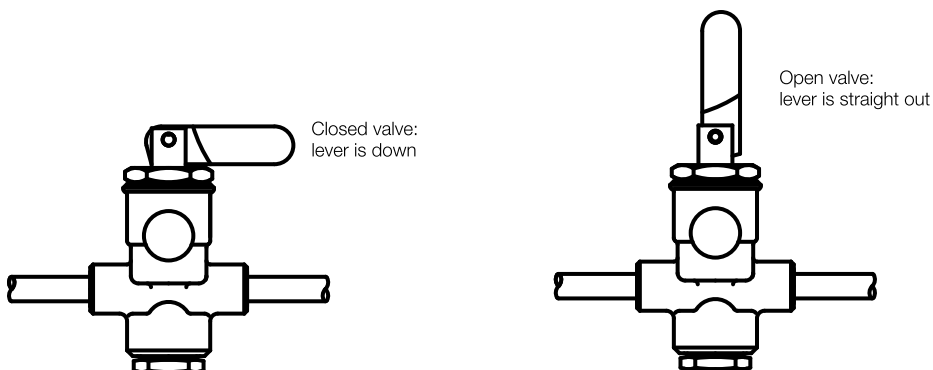

Figure 5. Operating Lever Positions
4. Make sure the lever is straight out on the ¼" operating valve in the line between the pump discharge line and the Flomatic® valve (Figure 5). If it isn't, the Flomatic® valve will remain closed.